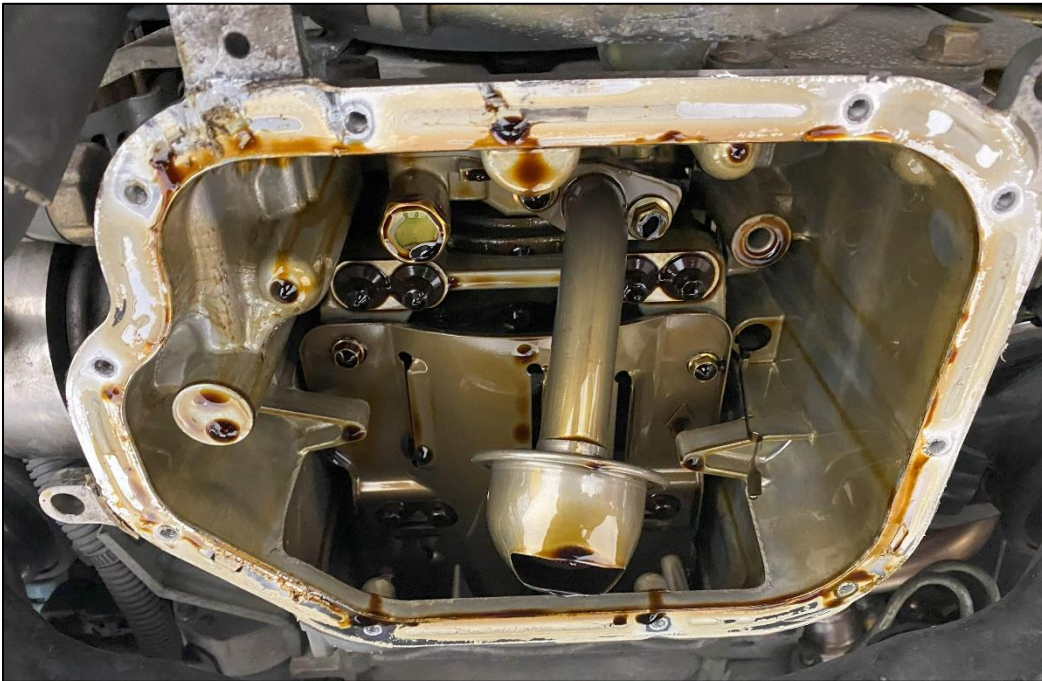

Figure 3
- Remove the bolt closest to the Oil Drain Plug and allow the remaining oil to drain. Once the oil has finished draining, remove the last bolt and the OE Oil Pan from the vehicle. *Figure 3.*